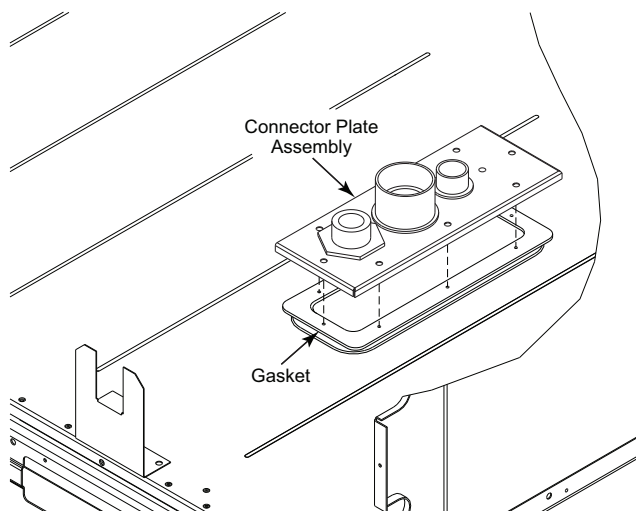

Fig. 18 — Completing Installation of Thru-the-Base Option
4. Place the gasket over the embossed area in the basepan, aligning the holes in the gasket to the holes in the basepan. See Fig. 18.